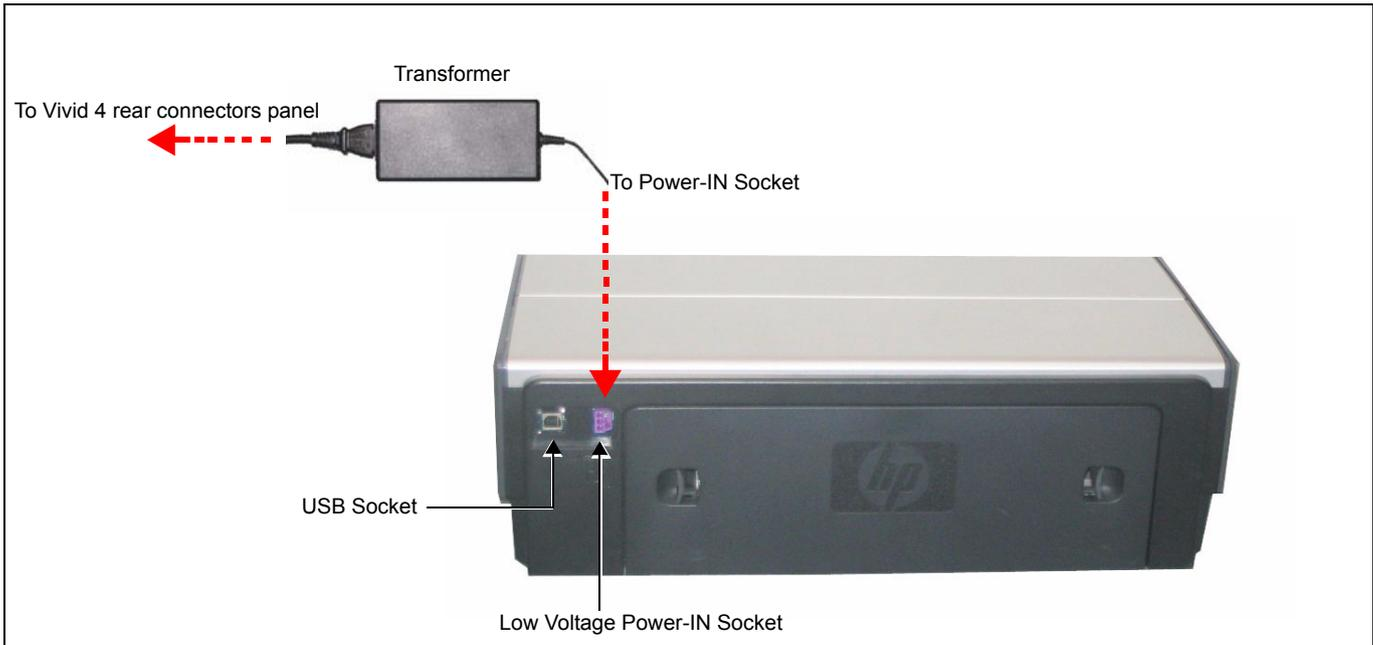

Figure 8-134 HP 6540/3 Deskjet Color Printer- Rear View
- 2.) Connect one end of the Printer power cable to the Vivid™ 4 rear connectors panel and the other end (via the transformer [supplied]) to the Low Voltage Power-IN socket on the rear of the printer, as shown in Figure 8-134 below.
- 3.) Use the USB cable (shipped with the printer) to connect the Vivid™ 4 system to the USB socket on the HP6540/3 rear panel (see Figure 8-134).